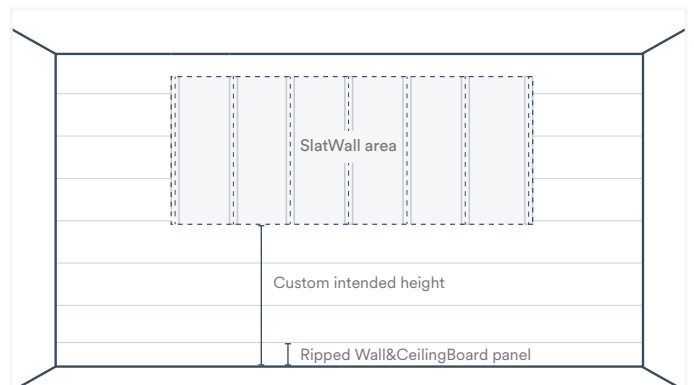

Fig. 31
- If the desired distance from the floor to the bottom of the first SlatWall panel is not an even multiple of 16", the Wall&CeilingBoard panel closest to the floor should be ripped to an appropriate width to achieve the desired SlatWall height (Fig. 31). The resulting connection between SlatWall and Wall&CeilingBoard is shown below.